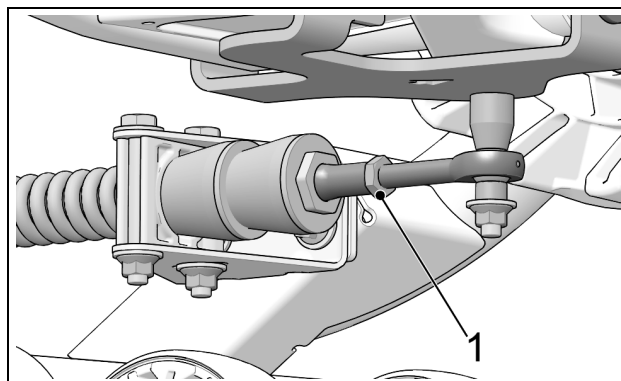

Figure 18
- Re-tighten jam nut (1) to 40 N·m [30 lb-ft] of torque when adjustment is complete. Figure 18.